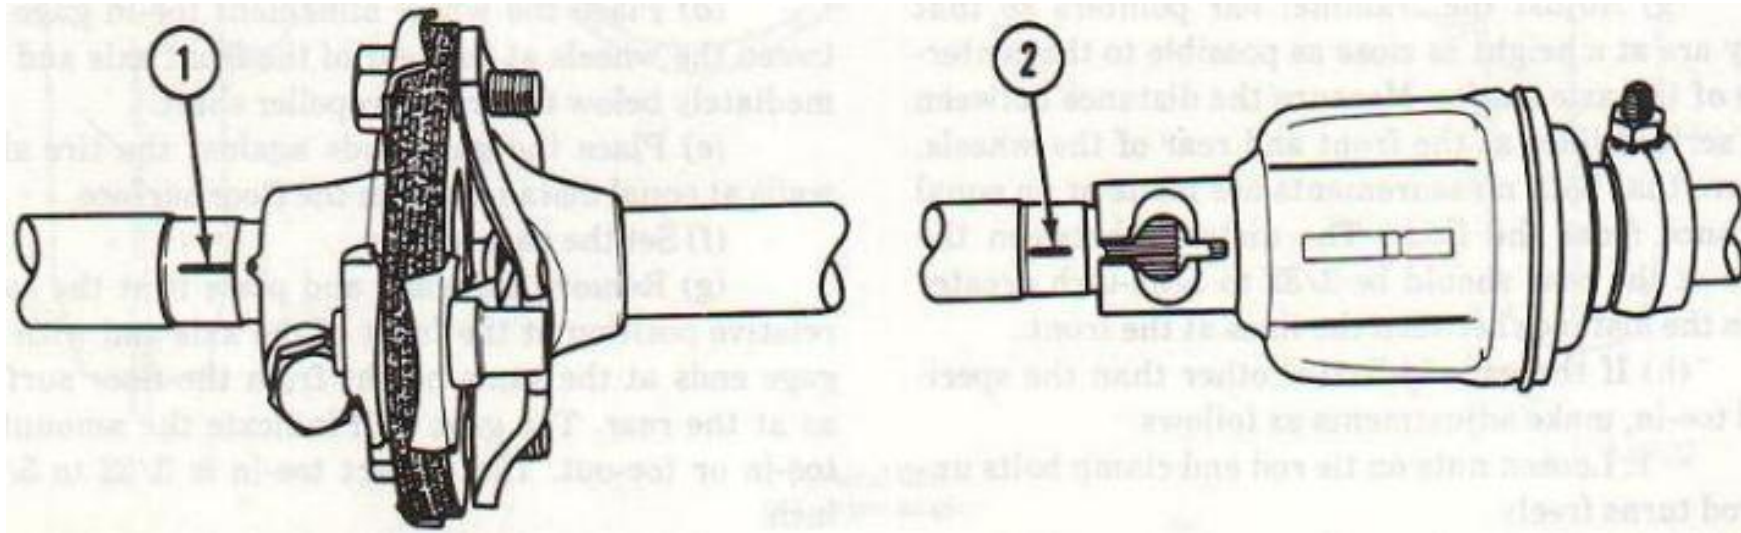
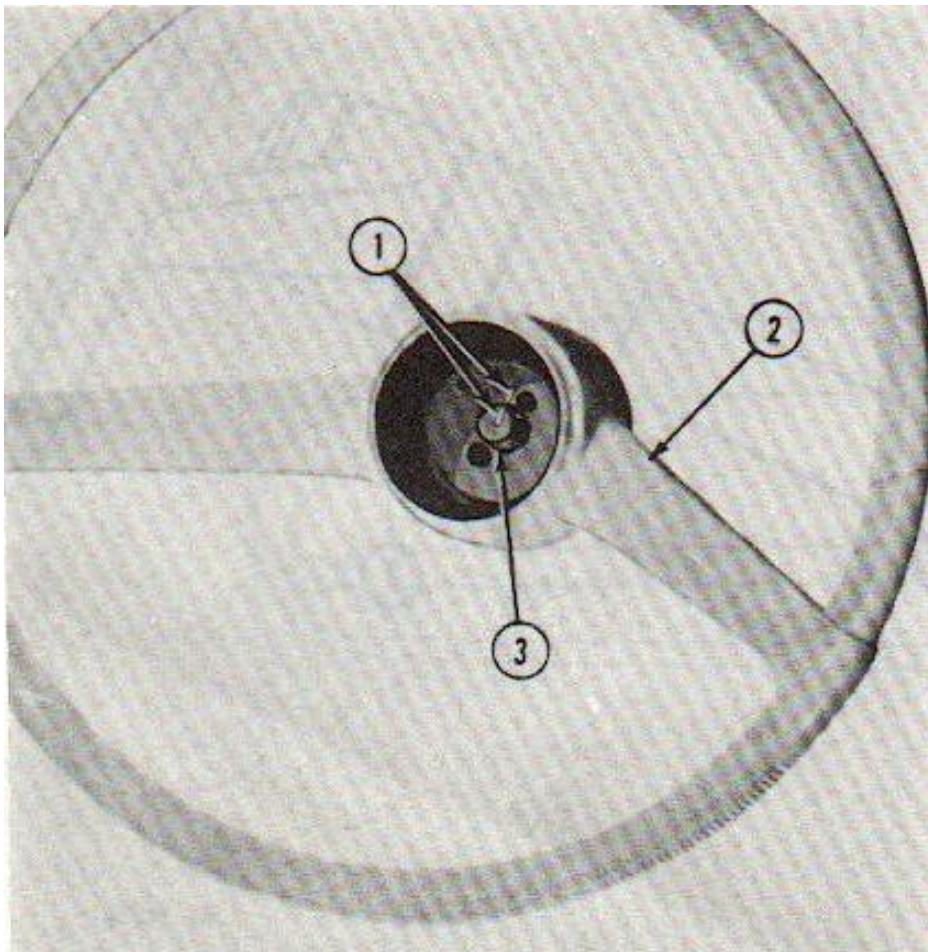

Figure 2-68. Steering shaft alignment marks
Figure 2.69. Steering wheel and shaft alinement.
(a) With the steering column, shaft, and U-joint coupling installed, and the front wheels set straight ahead, check position of mark on worm shaft designating steering gear high point. This mark should be at the top side of the shaft at 12 o'clock position and lined up with the mark in the flexible coupling lower clamp (fig 2-68). If this alignment is correct, check the alignment of mark on upper end of lower steering shaft and saw cut in U-joint coupling. With the steering wheel installed be certain alignment mark on steering shaft matches with mark on steering wheel hub as in figure 2-69.
- (1) Remove horn button by pulling straight away from steering wheel hub.
- (2) Remove three screws which secure horn button, contact flange, horn switch and horn contact spring to steering wheel. Remove contact flange, horn switch and horn contact spring.
- (3) Remove hex head nut and lock washer which secure steering wheel to steering shaft.
- (4) Install steering wheel puller using tool FSN 5120-168-2280. (Fig 2-69)
- (5) Tighten puller screw until steering wheel dislodges from steering shaft.
- (6) Remove steering wheel puller from steering wheel and remove steering wheel from steering shaft.